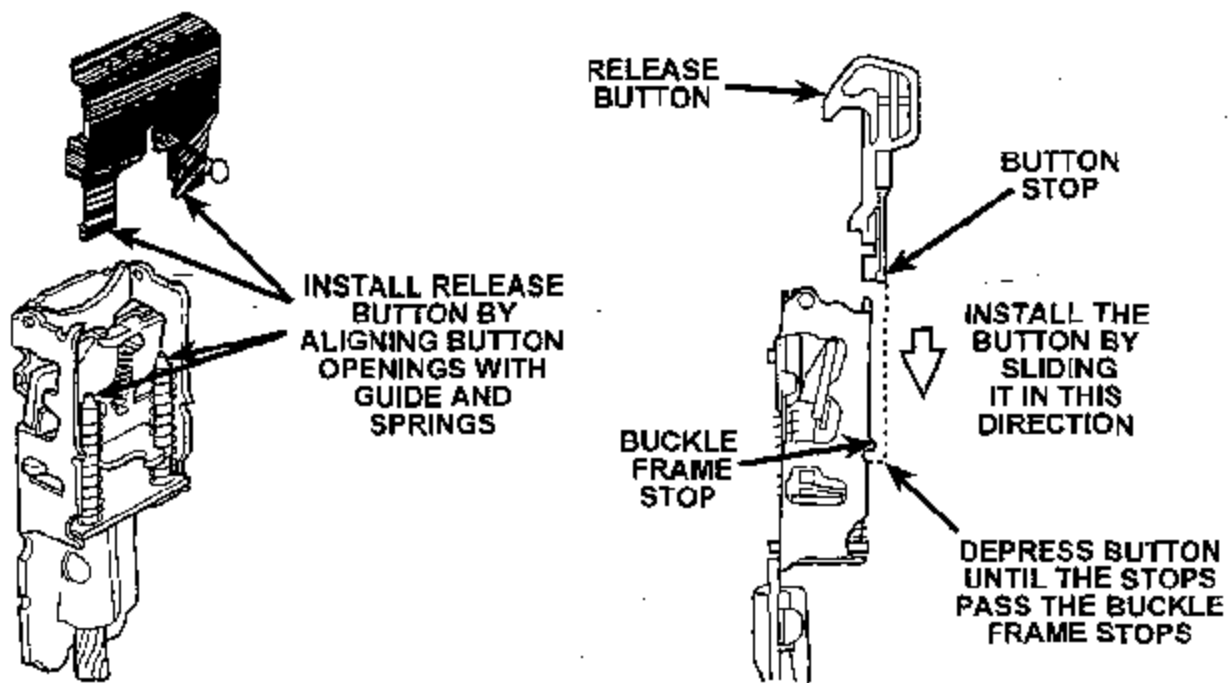

FIGURE 8
14. Install the release button by sliding the button over the guides and springs until the button stops pass the buckle frame stops (Figure 8).